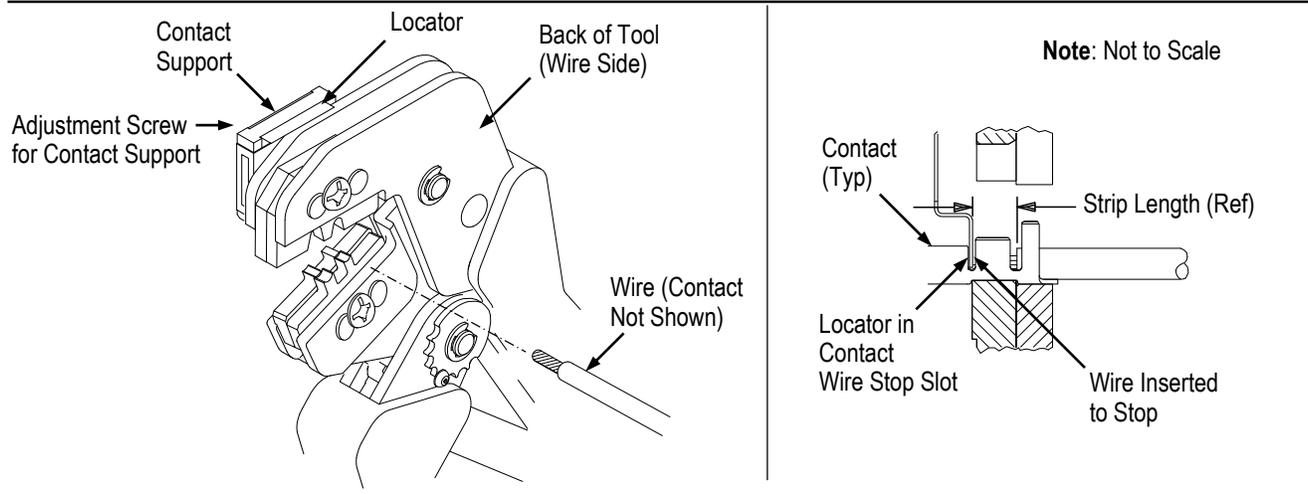

Figure 3
4. CONTACT SUPPORT ADJUSTMENT (Figure 3)
Refer to the table in Figure 1 and select wire of the specified size and insulation diameter. Strip the wire to the length indicated in Figure 1, taking care not to nick or cut wire strands. Select an applicable contact and identify the appropriate crimp section according to the wire size markings on the tool. Refer to Figure 3 and proceed as follows:
- Position the contact so that the mating end of the contact is on the locator side of the tool, and so that the open “U” of the wire and insulation barrels must face the top of the tool. Place the contact up into the nest so that the movable locator drops into the slot in the contact. Refer to Figure 3. Butt the front end of the wire barrel against the movable locator.
- Insert stripped wire into contact insulation and wire barrels until it is butted against the wire stop, as shown in Figure 3.
The crimped contact may stick in the crimping area, but the contact can be easily removed by pushing downward on the top of the locator. See Figure 3.